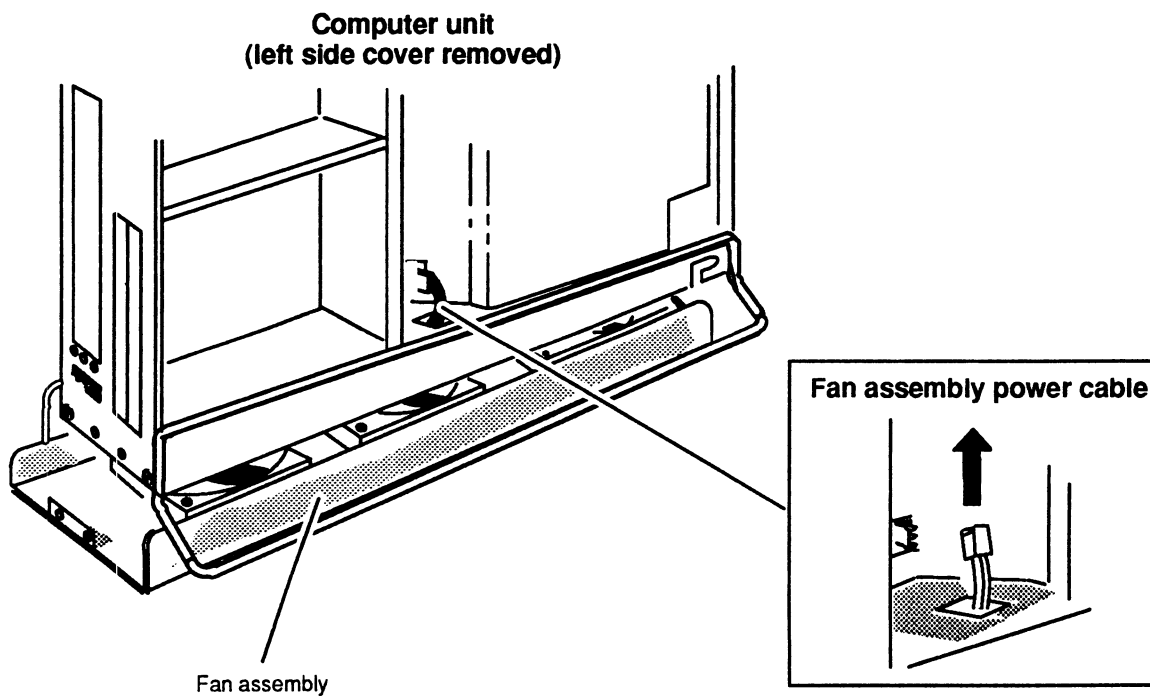

Figure 6–15 Positioning the Fan Assembly Under the Computer Unit
- Slide the fan assembly directly under the computer unit as shown in Figure 6–15.
- Pull the fan assembly power cable up through the hole in the computer unit as shown in Figure 6–15.